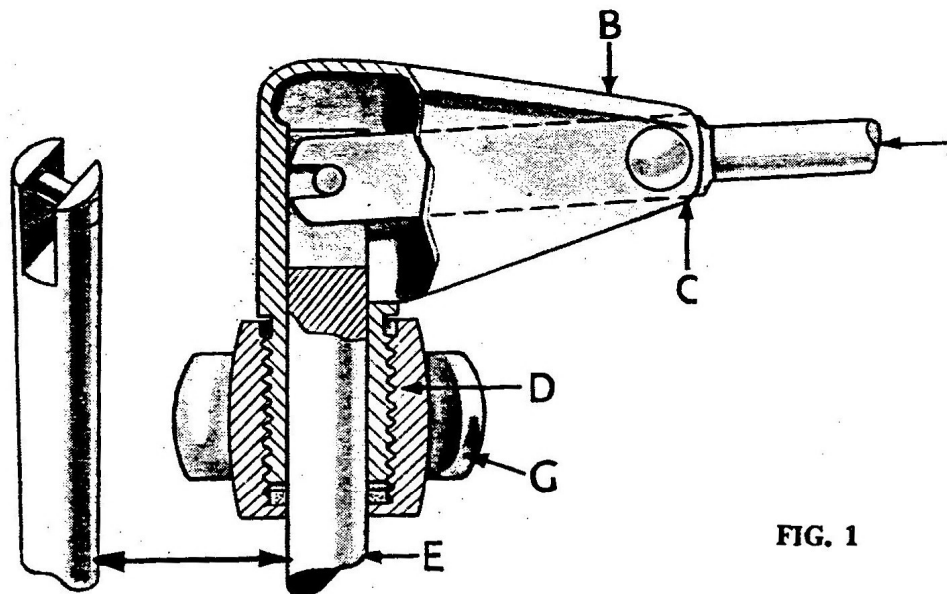

FIG. 1
We illustrate the two slightly different types of gear levers; Fig. 1 is the earlier type and Fig. 2 shows the slight modifications which were introduced in later models. Their construction can be clearly seen and with the aid of the following description we hope those who wish to change their control will be able to carry out the work without undue difficulty.
The only difference between the two types is that in type 1 (Fig. 1) the end of the lever is forked and fits into the forked end of the gear control shaft, the fork on the lever fitting over a small pin. In type 2 (Fig. 2) the end of the gear lever is rounded and this fits into a hole, *H*, in the gear control shaft, the top of which has two flats to locate the lever cap and inner sleeve assembly, otherwise the movement and operations are
rechroming, it is quite easy to measure and saw through the lever between point C and the fork, as seen in Fig. 1.
With the steering wheel removed and securing clamp G slackened (Figs. 1 and 2), the whole unit can be lifted, B turned to desired position and all parts then replaced. If difficulty is found in threading the electrical wires through the stator tube a wire may first be threaded through, the wires attached to this and pulled through like a cleaner in a rifle barrel.
- 1: Glue or screw the knob to a balsa baseboard. (fig 1)